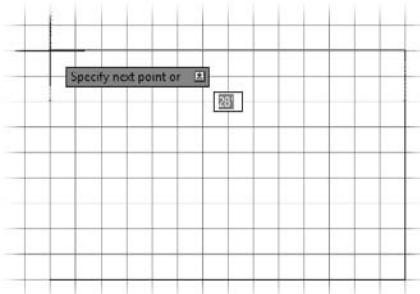

FIGURE 3.16 Drawing the second and third wall lines
6. Move the crosshair cursor directly left of the last point picked until the dashed linear dimension displays 28' (8550) and the dashed angular dimension displays 180.00°, and then pick that point (see Figure 3.16).